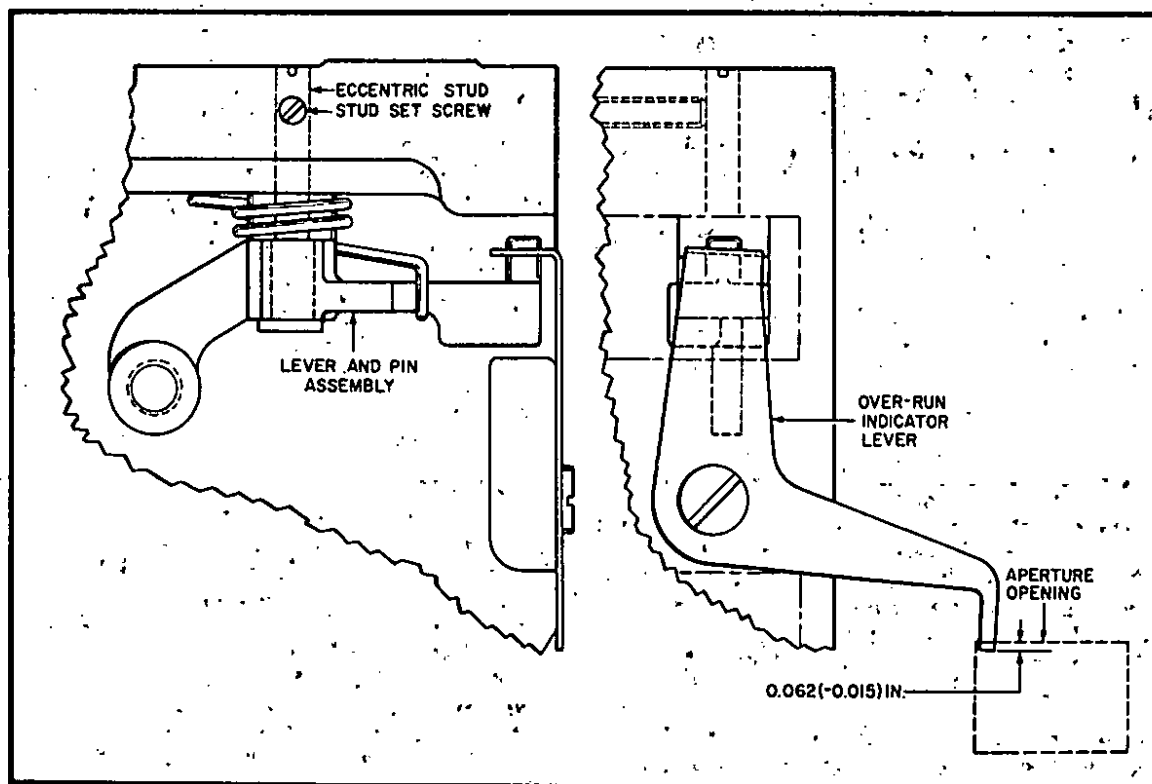

Figure 4-3. Adjusting the Over-run Indicator Lever
c. Loosen the stud set screw (figure 4-3) and rotate the eccentric stud to obtain the proper adjustment. Then tighten the set screw securely and reassemble the camera bodies and front end adapter (paragraph 4-13).